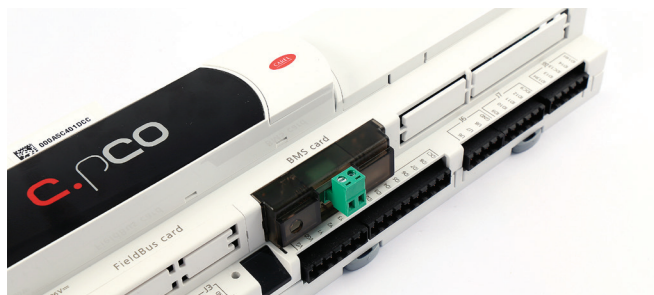

Fig. 2.a
With reference to Fig. 2.a, the card is installed on the controller when powered off, with following procedure:
1. Use a screwdriver to remove the "BMS card/serial card" cover, depending on the model of the pCO (see Fig. 2.a);